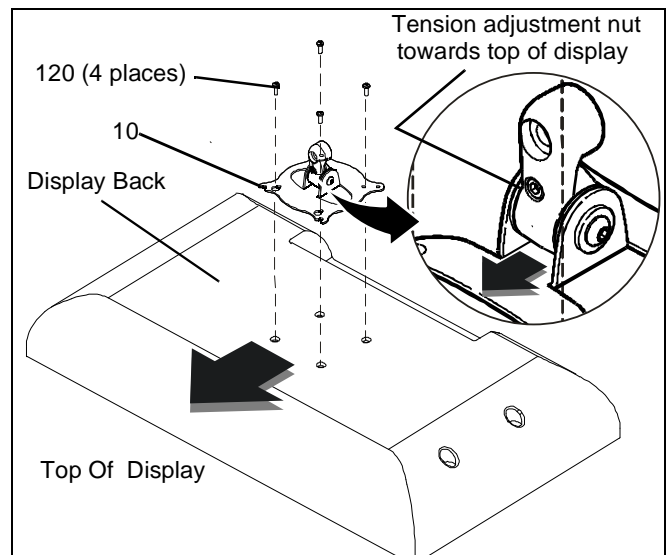

Figure3: VESA® Flush Mount
2. Orient extended pitch mechanism with display top. (See Figure 3)
3. Align four mounting holes in extended pitch mechanism (10) with four mounting holes in display back. (See Figure 3)
4. Secure extended pitch mechanism (10) to display using four PPHS (120). (See Figure 3)